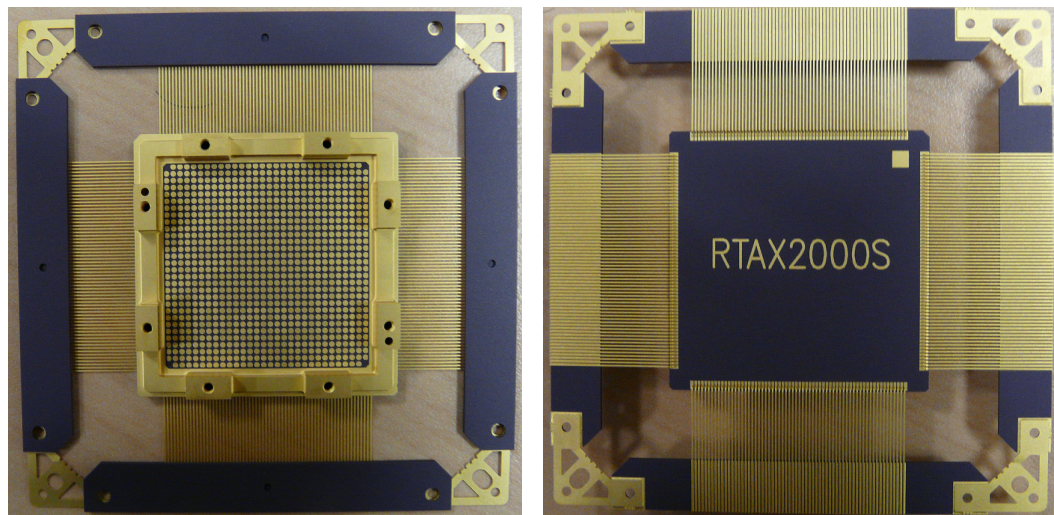

Figure 3 • RTAX2000S CQ256 to FG896 Ceramic Adapter, Top View and Bottom View and Orientation Drawings
Figure 3 shows the CQ256 to FG896 complete assembly kit. SK-AX2-CQ256-KITTOP contains items socket LID (3), interposer(4), and eight screws from (5). The SK-AX2-CQ256-KITBTM contains the following items: ceramic adapter (1), which is unique for RT/AX2000, socket housing (2), and eight screws from (5).